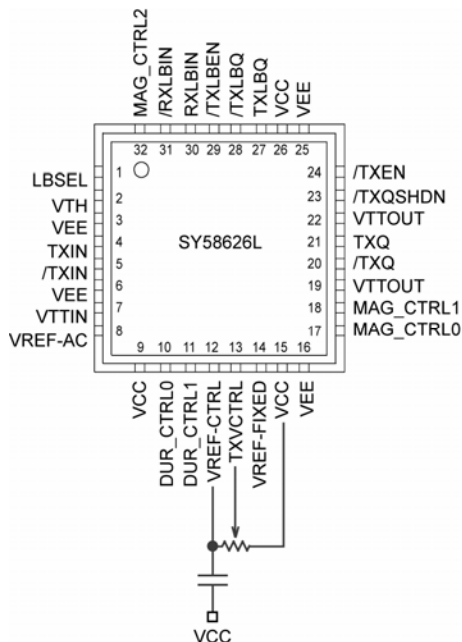

Figure 1. Variable Output Swing Circuit
- Control of the transmitter output swing buffer can be obtained by using a variable resistor connected between VREF-CTRL and VCC with the wiper driving TXVCTRL. Please refer to Figure 1 for more details.